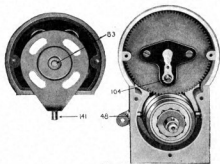

Fig. 8
2. Refer to Fig. 8. Note the punch marks on the distributor gear with the letters "C" and "A" over them. For clockwise rotation, place the *beveled tooth* on the armature gear directly opposite the punch mark "C"; for anti-clockwise rotation, place the *beveled tooth* opposite the punch mark "A". (The direction in which the magneto is designed to run is indicated by an arrow on the lower corner of the shaft end plate. The rotation of the magneto is always determined from the driven end.)
3. With the gears meshed in the proper position, place the armature and distributor gear into the magneto frame. A felt oil wick extending thru the lower part of the distributor gear bearing, must be held down to allow the distributor gear shaft to pass thru the bearing. Remove the bearing dust cover (117) and hold the wick down with the screw driver until the gear and armature are in place, then replace the dust cover.